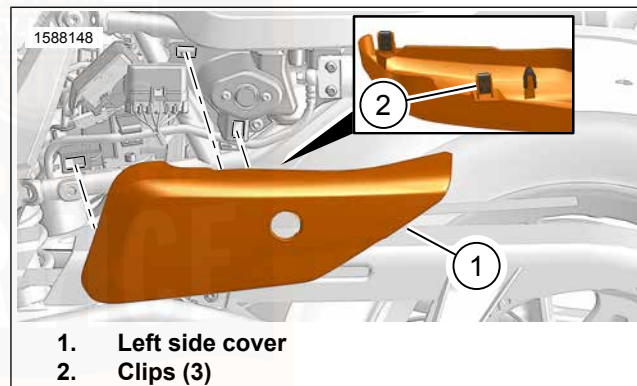

Figure 82. Left Side Cover (RH1250)
1. See Figure 82. Pull left side cover (1) with clips (2) away from vehicle.